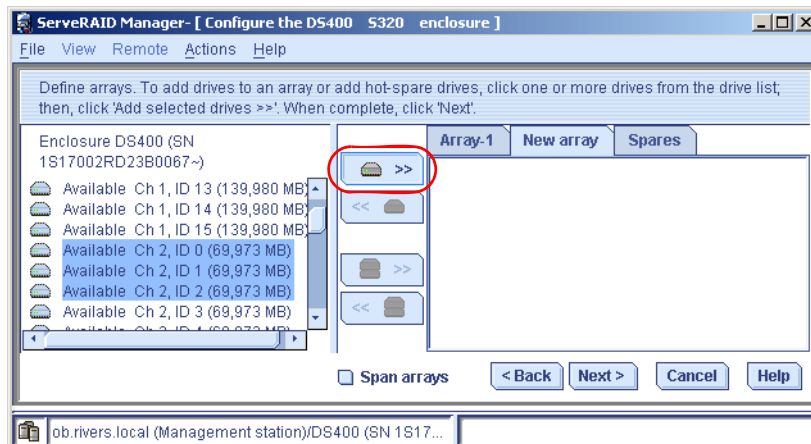

Figure 4-91 Selected drives for the new array
6. Click the newly created **New array** tab. Select 3 drives and assign them to the **New array**. This array will be used together with the array created in the next step to build a spanned array with a RAID level of 50. Then click the **Add selected drives to array** button. See Figure 4-91.